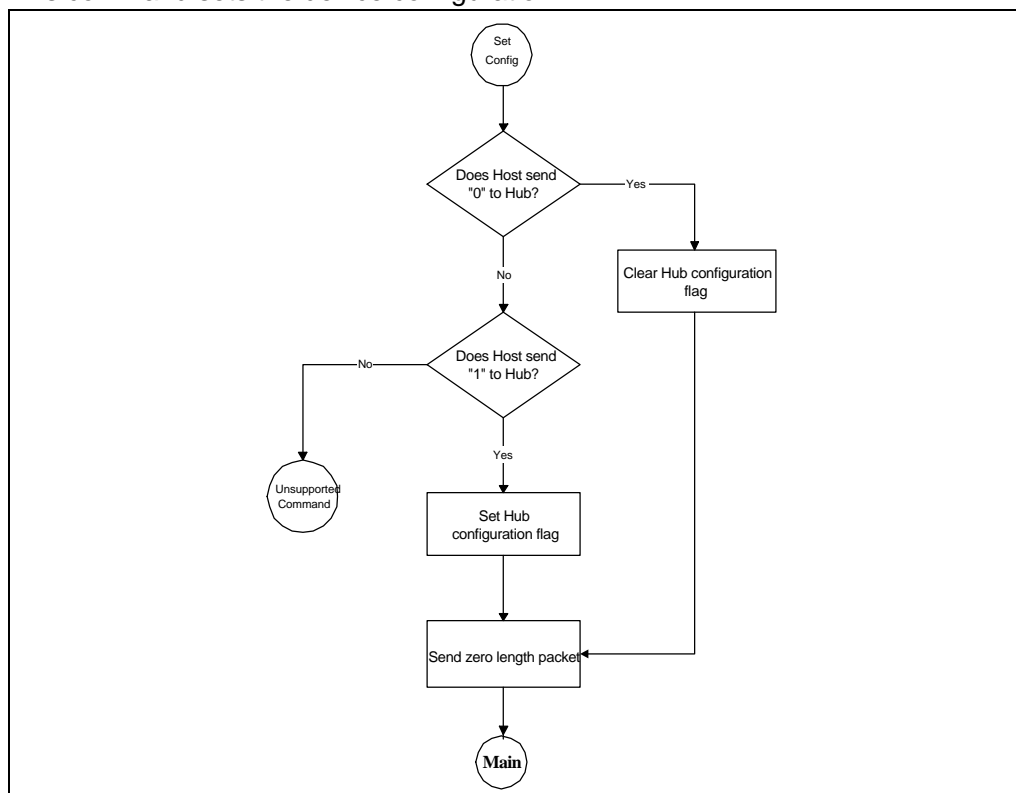

Figure 14: Hub Set Configuration Standard Command
- Set Configuration (Figure 14)